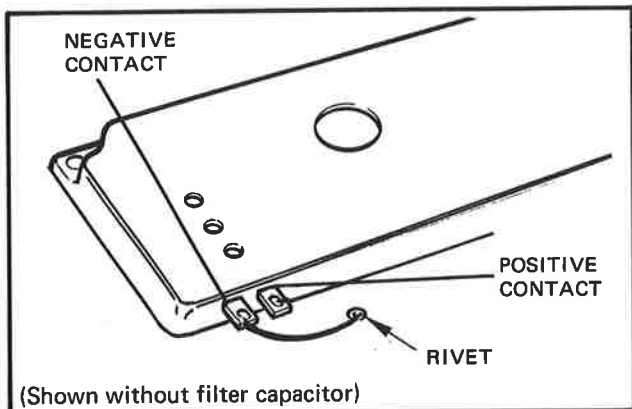

FIG. 4-15 RELOCATING THE LEAD
- Lift the filter capacitor up and **very carefully** examine the timer contacts. On some cameras, these contacts are internally grounded with a very fine wire running under the spider. If you find that the camera is internally grounded to the positive contact (Figure 4-15 for identification of positive and negative contacts),